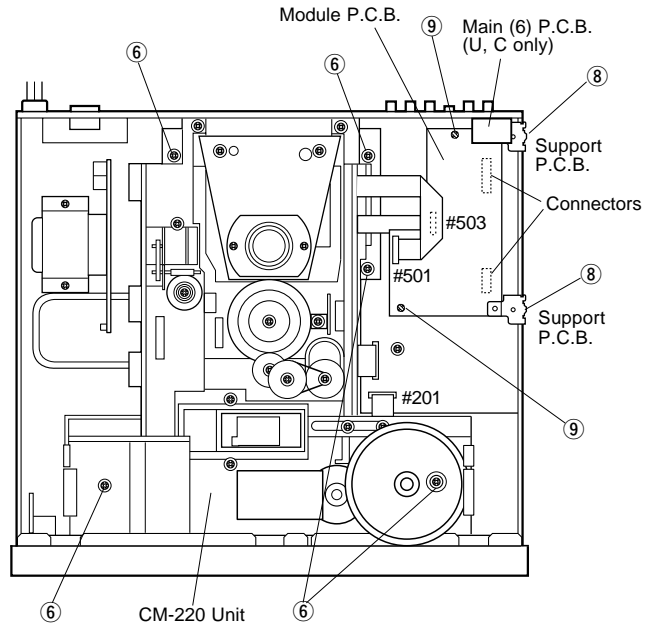

Fig. 4
- a. Remove 5 screws ( ⑥ ) in Fig. 4.
- b. Remove 4 screws ( ⑧ ) and then remove the Support P.C.B. in Fig. 4.
- c. Release 2 hooks ( ⑨ ) in Fig. 4.
- d. Pull out the Module P.C.B. vertically in Fig. 4.